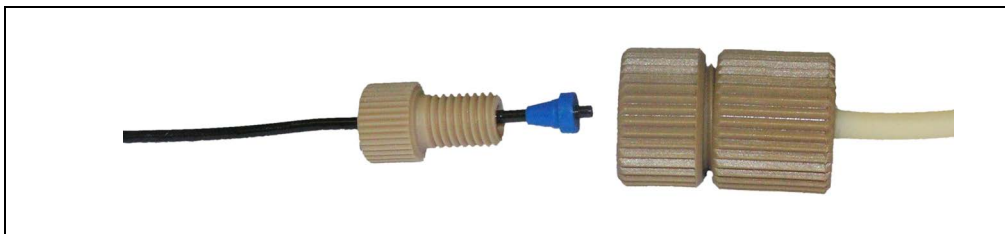

Figure D-9. Fitting Nut and Ferrule for Peristaltic Tubing Connections
12. Connect plumbing lines to the peristaltic tubing fittings as required for your application. Use the fitting nuts and ferrules provided with the peristaltic tubing adapter set. Install the nut and ferrule on the tubing as shown in Figure D-9.